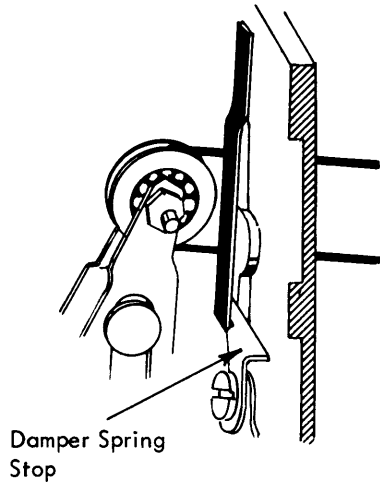

FIGURE 61. Damper, Spring Stop - Preliminary Adjustment
- a. Damper spring stop - as a preliminary adjustment, slide the damper spring stop down as low as it will go behind the damper spring (Fig. 61).